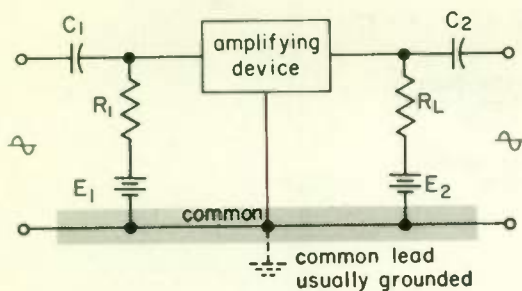
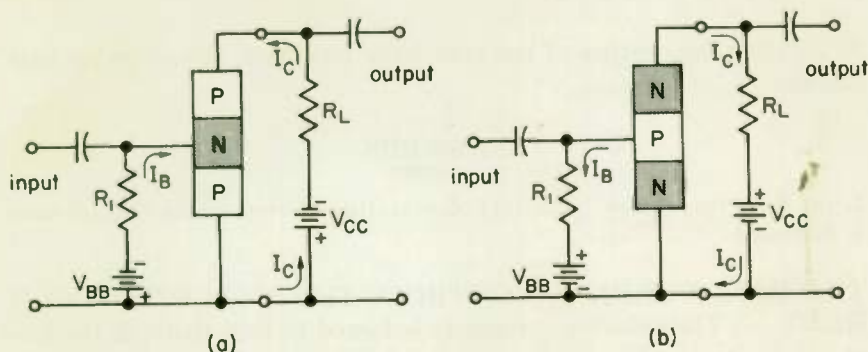

Fig. 28 The three terminal amplifier.
Fig. 31 Biasing the transistor.
16 THE THREE-TERMINAL BASIC AMPLIFIER . . . Up to this point, you have analyzed the amplifier as having four terminals; two input terminals and two output terminals. In actuality, only three terminals are used, since the bottom terminal of both the input and the output are connected to the common (ground) side of the circuit. Figure 28 illustrates how there are actually three terminals to an amplifier.
BIASING THE TRANSISTOR . . . When the transistor is used as an amplifying device, two d-c potentials, called bias voltages, are required for proper operation. Figure 31 shows these two voltage supplies connected to the two types of transistor. Notice that the circuits are identical to the circuit shown in Fig. 28, except that a transistor is shown as the amplifying device. V_{CC} is the collector voltage bias which causes a d-c collector current I_C to flow. The base voltage supply is V_{BB} . This supply is connected from base to emitter, and it causes a d-c base current I_B to flow in the input circuit. Because the PNP and NPN transistors are of exactly opposite construction, the polarities of V_{BB} and V_{CC} for the PNP amplifier are exactly opposite for the NPN amplifier. In Fig. 31(a), battery V_{BB} supplies a negative voltage to the base of the PNP transistor, while in Fig. 31(b) it supplies a positive voltage to the base of the NPN.
1. V_{BB} , the base supply voltage in Fig. 31, causes a base current I_B to flow in the input circuit. This voltage is connected from emitter to (a) _____ through the resistor R_1 . If you are given an NPN transistor, you must apply a (b) (+) (-) voltage to the base. (Remember the middle letter of NPN is P.)
2. V_{CC} , the collector voltage supply in Fig. 31, causes the (a) _____ current I_C to flow in the output circuit. This voltage is connected from emitter to (b) _____ through the resistor R_L . If you are given an NPN transistor, you must apply a (c) (+) (-) voltage to the collector because that polarity is (d) (same as) (different than) the polarity you are applying to the base.
1. The transistor is an amplifying device because the resistance from emitter to collector can be made to vary by varying the (a) _____ current. If you increase the value of I_B in Fig. 31(a), you decrease the resistance of the transistor so that I_C (b) (increases) (decreases). The